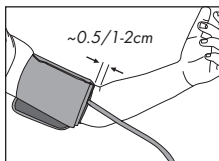

Fig. 5
3. The bottom edge of the cuff should be positioned approximately 0.5" above the elbow joint, Fig 5.